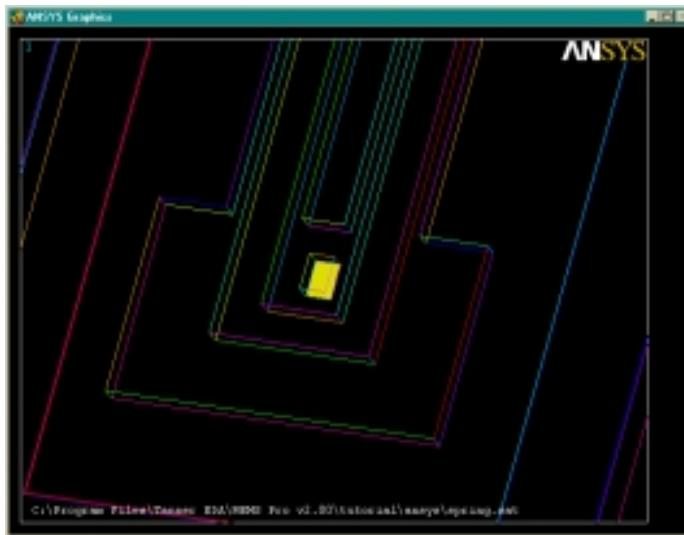

Figure 109: Selecting a particular area of the 3D model
- Now hold the left mouse button down and drag the pointer around the display. Notice that different areas are highlighted while the pointer is over them. Drag the pointer over the anchor area until it is highlighted, as in Figure 109. Releasing the mouse button will pick this area (which should be number **59**). If you